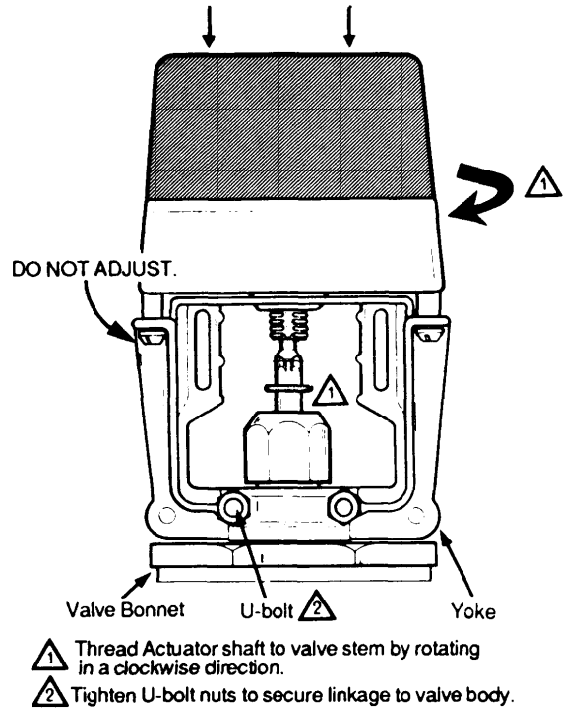

FIG. 4 -- ASSEMBLY OF ML6874A TO VALVE.
1. The drive shaft of the ML6874 has a threaded hole to link with the valve stem. Slide the yoke over the valve bonnet (Fig. 4)
3. Care should be exercised when using tools on the valve stem during tightening. (Fig.4) **DO NOT** damage the threads or other parts of the stem.